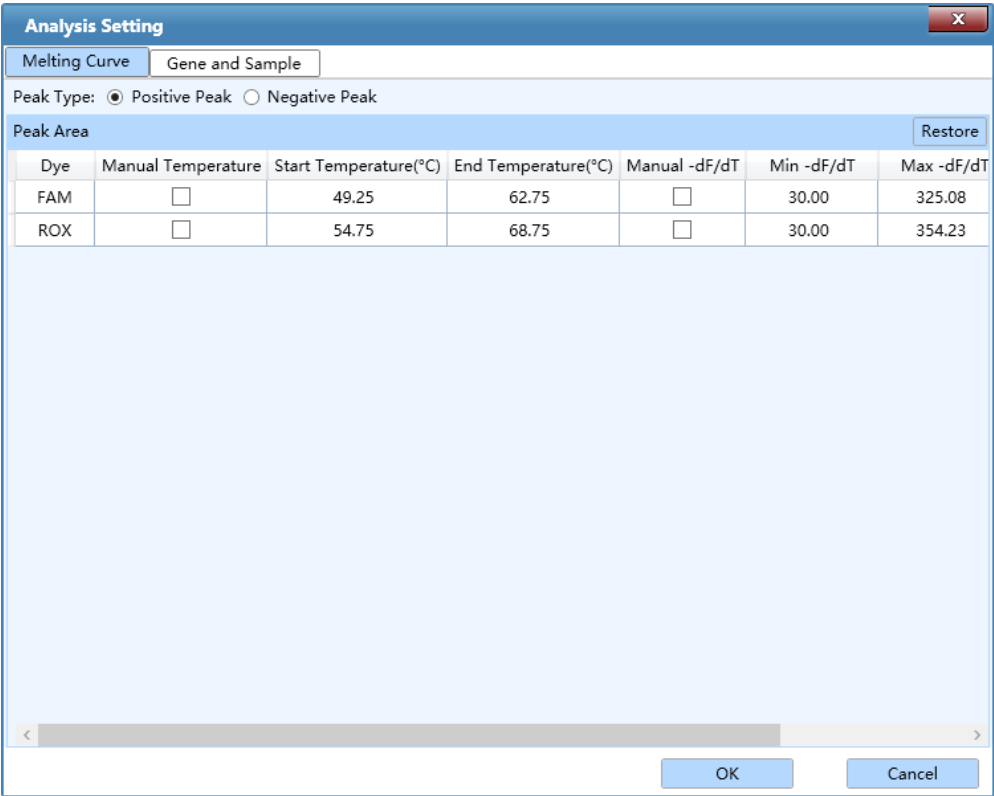

Figure D-13.3. Melting Curve Analysis Setting Interface - Melt Curve Tab
I. **Melting Curve** tab: display the parameter range of each peak area, as shown in figure D-13.3.